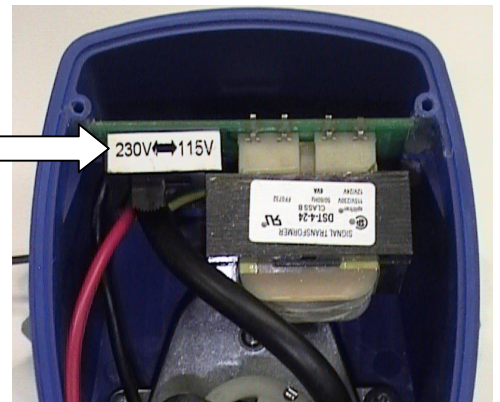

Figure 1. Input Voltage Switch
2. **O-RDV/SDV Controls Only:** This control has a switch to select the proper line voltage. The unit is factory set to 230VAC. To change the voltage to 115VAC, remove the back of the control. Move the switch from 230VAC to 115VAC as shown in Figure 1. Reinstall the back cover.